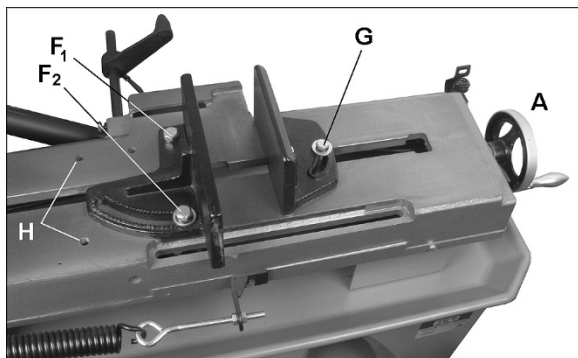

Figure 8-17: vise positioning (712V only)
1. Remove bolts (F₁/F₂, Figure 8-17) from fixed jaw.
3. Adjust floating jaw parallel to fixed jaw by loosening bolt (G, Figure 8-17), adjusting to parallel, and retightening bolt. Use handwheel (A) to move floating jaw to open and close vise.
To set vise for maximum width of stock cutting, position fixed jaw in outermost set of holes (H, Figure 8-17).